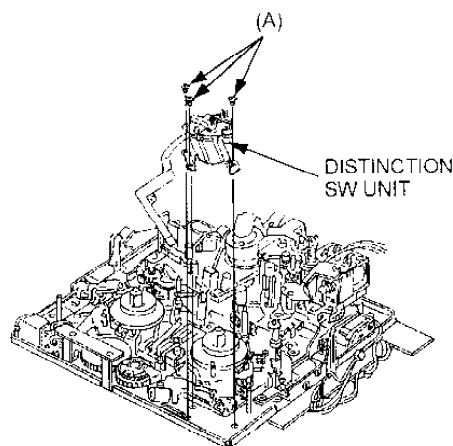

Fig. 6-19-1 Removal of Distinction Switch Uni
6. Unscrew the 3 screws (A) and remove the Distinction SW Unit as shown in **Figure 6-19-1**.
4. Unscrew the 2 screws (A) and remove the Reel Drive Sensor P.C.Board as shown in Figure 6-19-1.